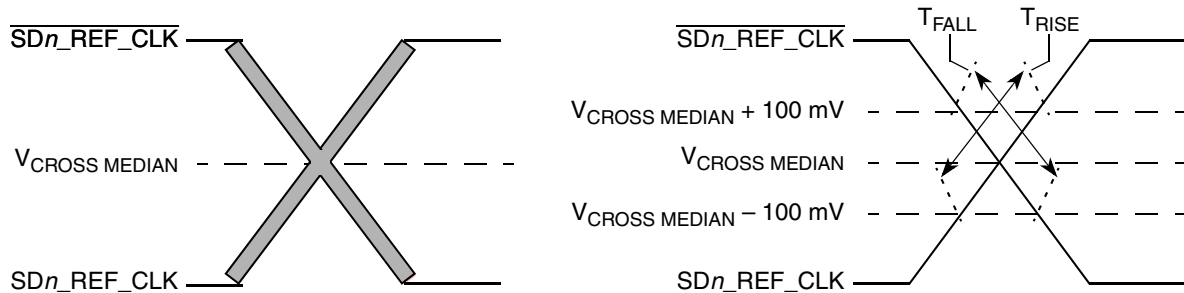

Figure 54. Single-Ended Measurement Points for Rise and Fall Time Matching
- Matching applies to rising edge rate for SDn_REF_CLK and falling edge rate for SDn_REF_CLK . It is measured using a 200 mV window centered on the median cross point where SDn_REF_CLK rising meets SDn_REF_CLK falling. The median cross point is used to calculate the voltage thresholds the oscilloscope is to use for the edge rate calculations. The rise edge rate of SDn_REF_CLK should be compared to the fall edge rate of SDn_REF_CLK , the maximum allowed difference should not exceed 20% of the slowest edge rate. See Figure 54.